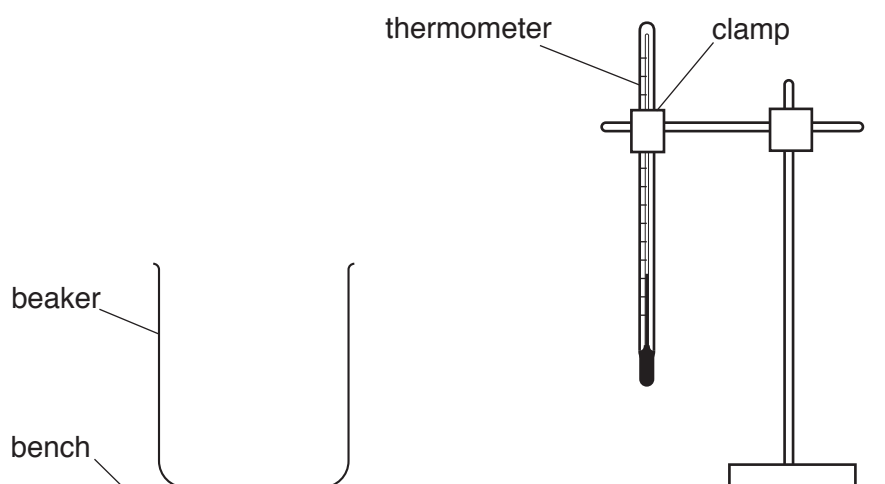

Fig. 3.1
1. The thermometer, clamp, boss and stand are to be set up for candidates as shown in Fig. 3.1. The thermometer bulb must be well below the 100 cm^3 level of the beaker. Candidates must be able easily and safely to read temperatures up to 100°C and to move the thermometer in and out of the beaker.
Empty the water from the beaker. Check that the apparatus is intact and is arranged as in Fig. 3.1.